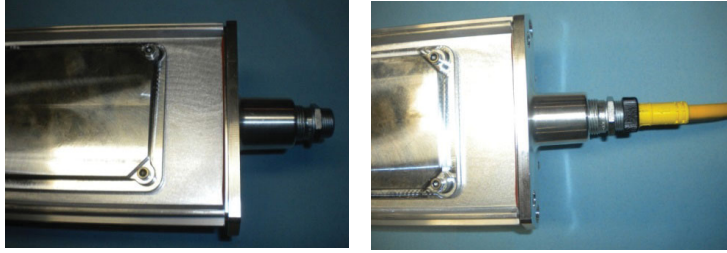
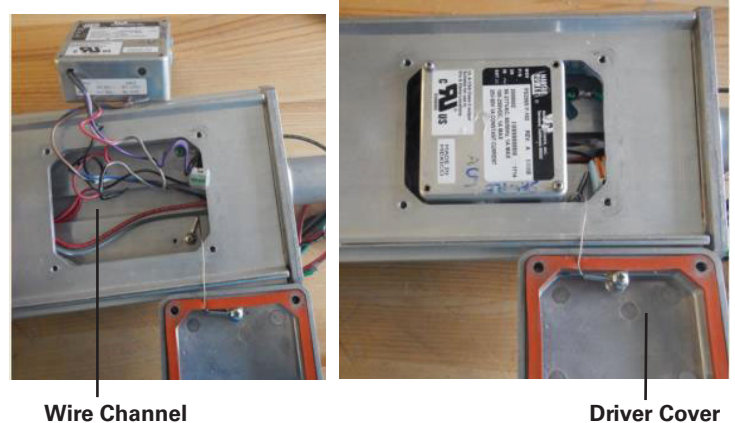

Figure 18
Figure 20
7. Disconnect the input and output leads of the old driver(s) (see Figure 18).
8. Remove the two (2) screws that secure the driver; remove the old driver.
11. Reinstall the new driver into the luminaire, ensuring that output wires to LED boards are tucked neatly into the housing and the input and dimming wire leads are placed in the wiring channel underneath the driver and routed to the input wiring area (see Figure 20).
12. Ensure that the driver is in direct contact with the luminaire housing and no wires are being pinched between the driver and the housing. Secure with two (2) screws and tighten to 5 in.-lb. (0.6 N-m).